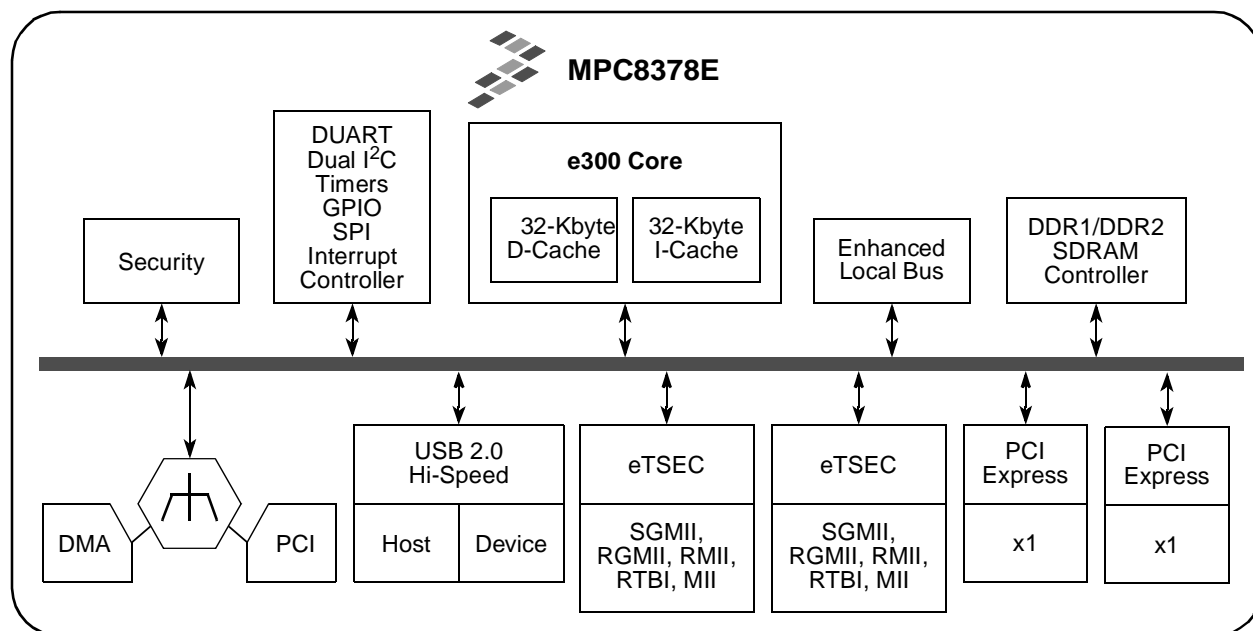

Figure 1. MPC8378E Block Diagram and Features
2.0 dual-role controller, a programmable interrupt controller, dual I²C controllers, a 4-channel DMA controller, an enhanced secured digital host controller, and a general-purpose I/O port. The block diagram of the MPC8378E is shown in Figure 1.